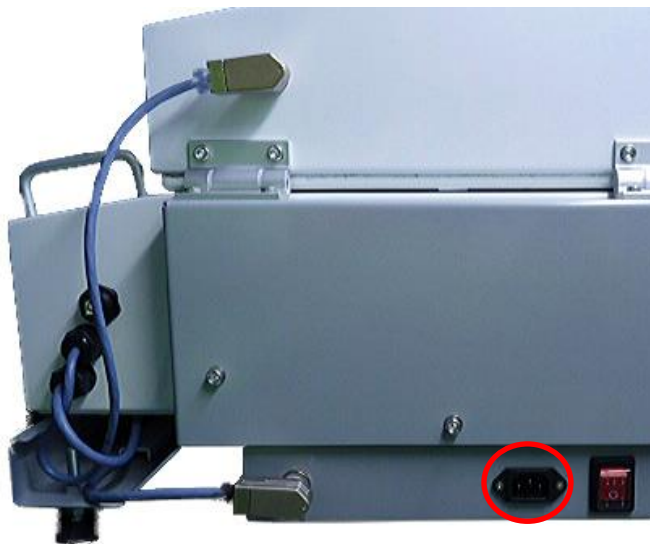

Fig 18.1
- First connect the power cable. As shown in Fig. 18.1.